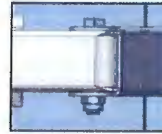

FIG 4-16
1. Hang the spring on the machine body and insert the blot into the installation hole across the bead breaker then fix them with nut and washer. (FIG 4-16)